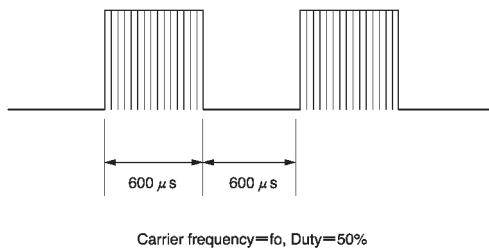

Fig.1 Transmit signal
*1 The burst wave form mentioned in fig.1 is to be transmitted from standard transmitter (fig.2).
When standard transmitter output the signal at Fig.1 standard photodiode output become $io = 5\mu\text{ A}_{\text{P-P}}$ under the measurement condition Fig2, Fig.3.